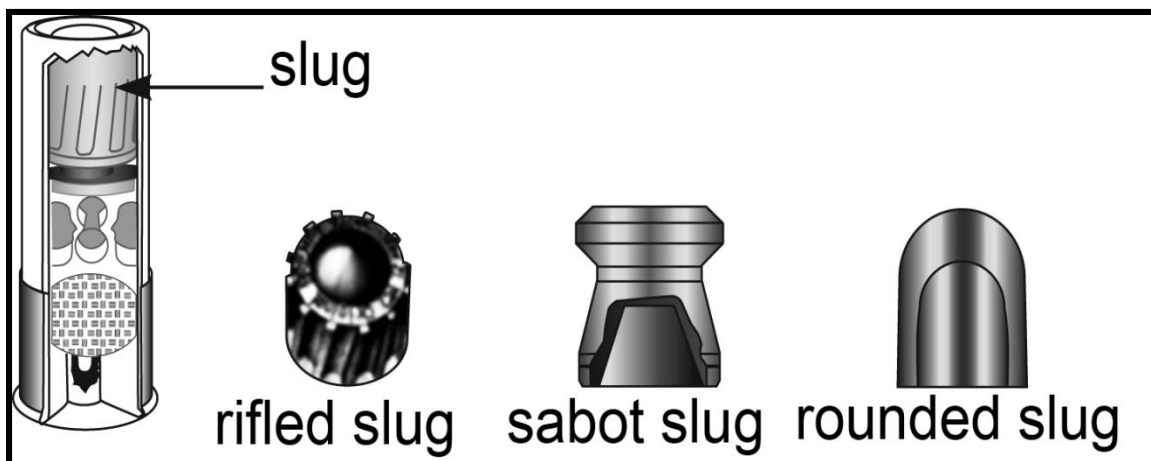

Figure 28. Types of Shotgun Slugs
- a. The use of smooth slugs, rifled slugs, and slugs contained in a sabot or plastic sleeve, is becoming more common in modern shotguns (Figure 28). This allows shotguns to fire single projectiles (bullets).